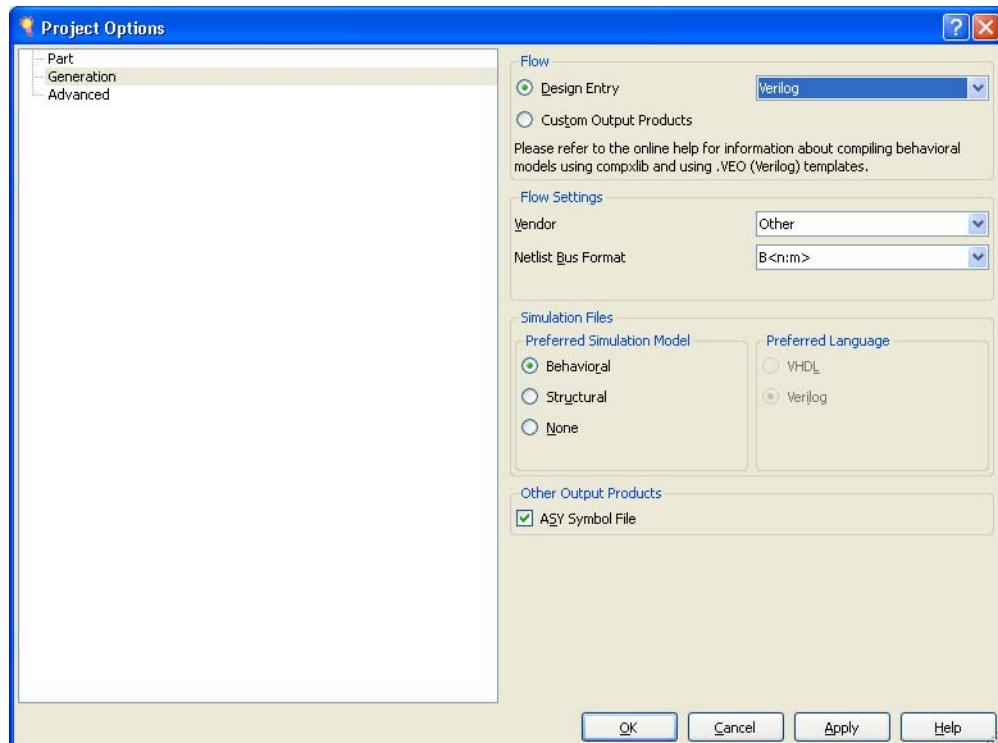

Figure 3-5: CORE Generator Tool Design Flow Setting Page
5. Select **Verilog** as the Design Entry Option and **ISE** for the Vendor Flow Setting. Click **OK** to finish the Project Options setup (Figure 3-5).